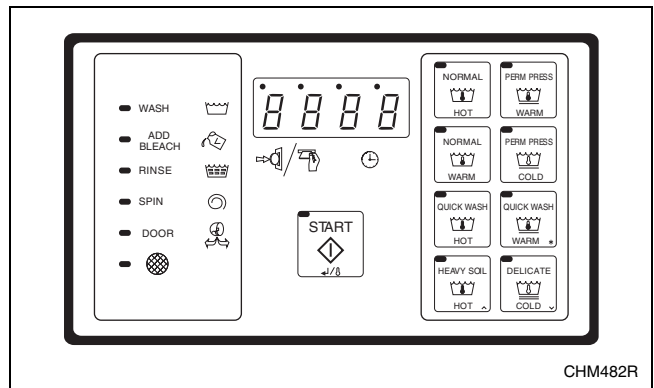

Figure 7
6. The default wash cycle will display. Refer to *Figure 7*.
11. Press the desired wash cycle keypad. Refer to *Figure 7*.